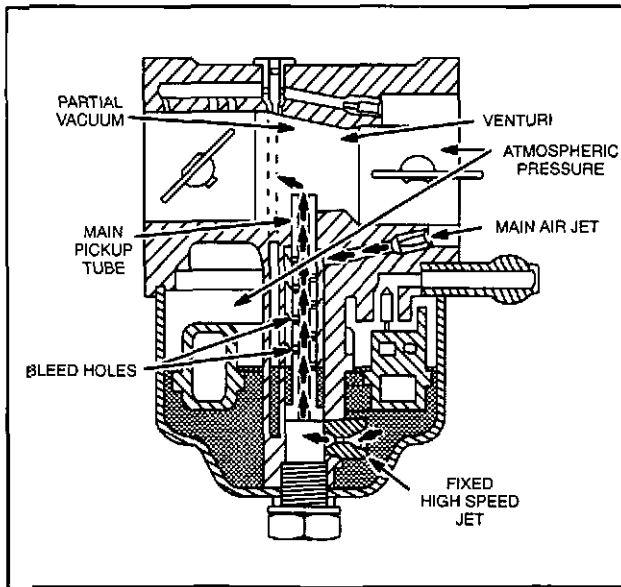

Fig. 8 - High Speed Operation (Typical)
1. As the intake valve opens, a partial vacuum forms in the carburetor throat, Fig. 8.
2. Atmospheric pressure pushes air through the venturi causing a drop in pressure at the venturi throat, Fig. 8.
4. Atmospheric pressure pushes air through the main air jet to the outside of the main pickup tube, Fig. 8.
5. This air then enters through the main pickup tube bleed holes and mixes with the fuel coming up the inside of main pickup tube, Fig. 8.